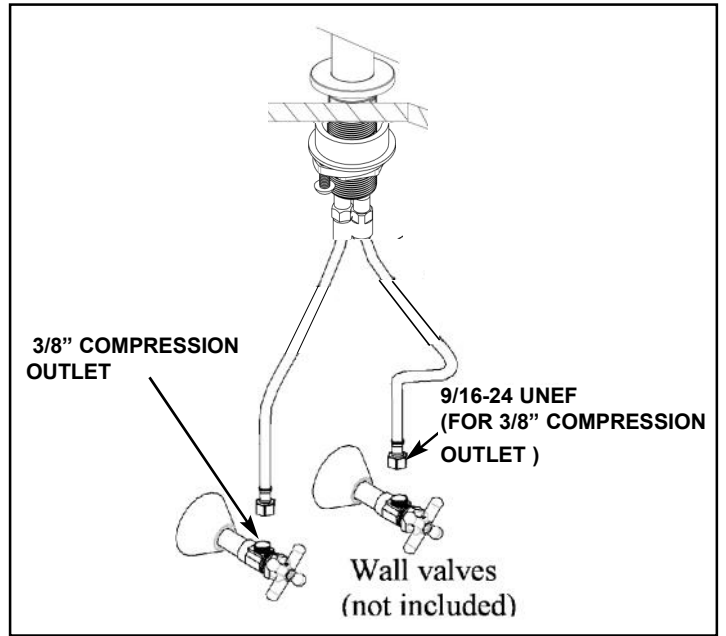

Figure 2
2. Attach hot/cold spout supply hoses to valves in the wall. See Fig. 2